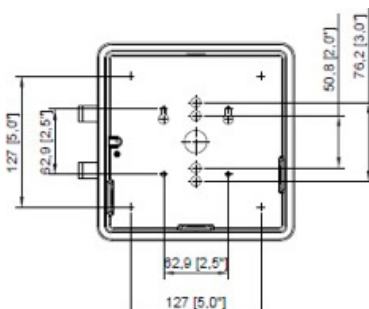
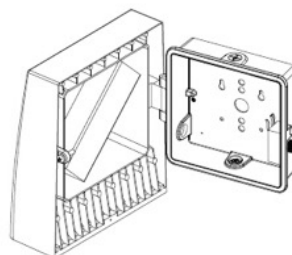

FIG. 1
FIG. 2
1. Open the back box by using philips screw driver (FIG.2),Refer to size of the diagram to bore the holes on the wall(FIG.1).